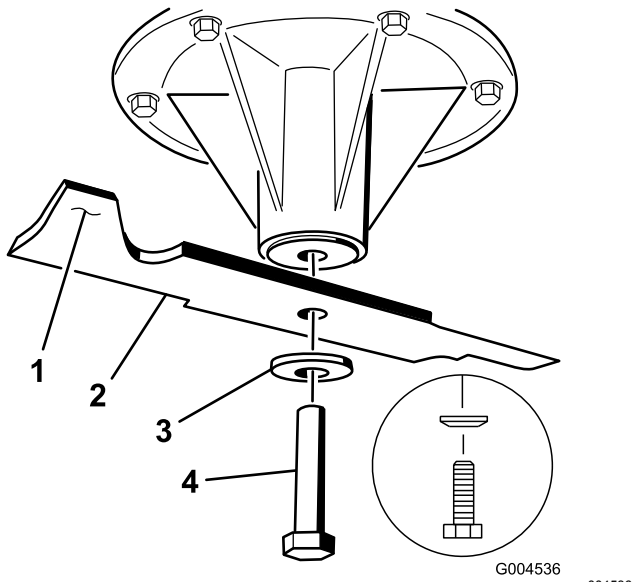

Figure 75
2. Remove the blade bolt, the curved washer, and the blade from the spindle shaft (Figure 75).
3. If the blade is not balanced, file some metal off the end of the sail area only (Figure 75).